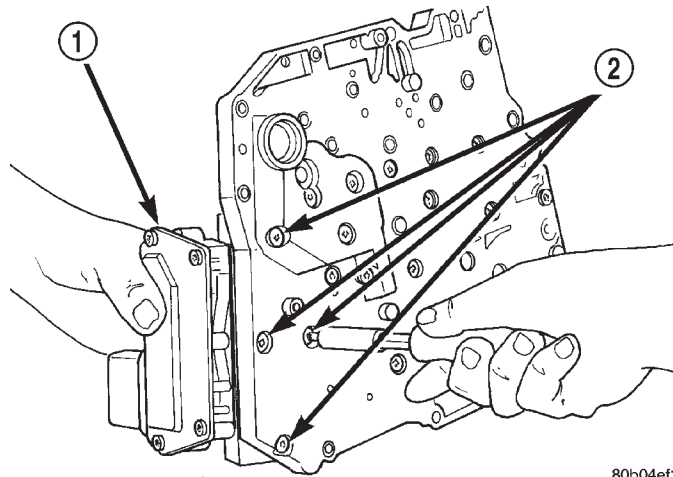

Fig. 122 Solenoid/Pressure Switch Assembly Location
- (4) Remove Solenoid/Pressure Switch Assembly from valve body (Fig. 122).